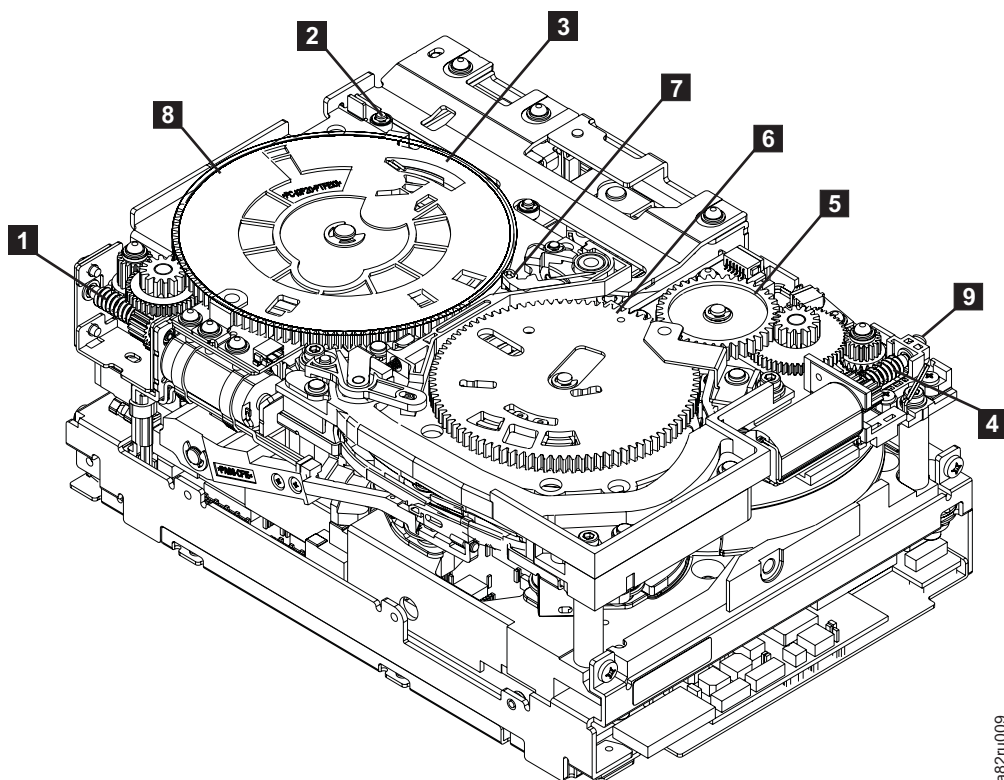
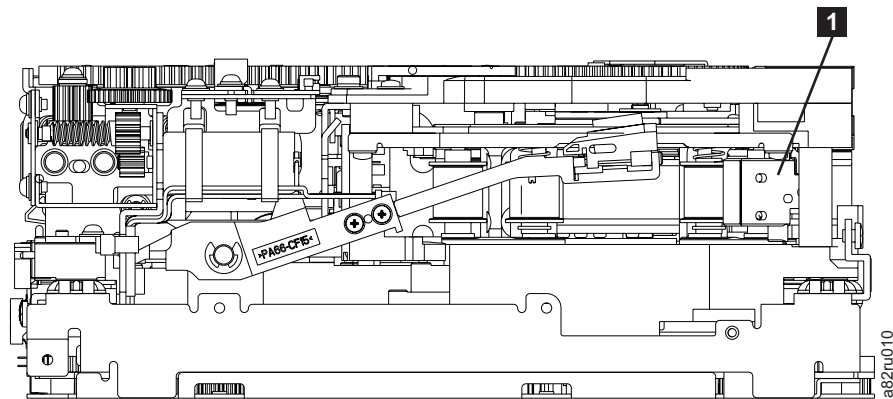

Figure 130. Drive with cover removed to reveal gear train.
Figure 131. Leader Block Assembly (LBA)
- ___ 6. Locate the threader motor worm gear (**4** in Figure 130 on page 290) on the rear of the drive. You can either:
- a. Use your finger to rotate the treader motor worm gear and slowly rotate the threader mechanism gear (**6** in Figure 130) clockwise; OR
- b. Use a #1 flathead screwdriver to turn the worm gear (**9** in Figure 130) clockwise.
This rotates the threader motor worm gear (**4** in Figure 130) clockwise, drawing the LBA into the cartridge.
- 7. As the tape leader block assembly (LBA) is secured in the cartridge, you should hear the LBA retention spring clips click into place. If you do not hear the click, continue rolling until the threader motor worm gear (**4** in Figure 130) stops. The LBA is in the correct position.
- a. Loader mechanism gear (**8** in Figure 130) nearest the front of the drive that actuates the cartridge loader mechanism.
- b. Position of the rotate stub (**3** in Figure 130 on page 290).
- c. Front loader motor worm gear (**1** in Figure 130 on page 290). Rotating this gear allows the loader mechanism gear (**8** in Figure 130 on page 290) to turn.
- ___ 9. Rotate the loader motor worm gear (**1** in Figure 130 on page 290) to turn the threader mechanism gear (**6** in Figure 130 on page 290) counterclockwise. Continue turning until the rotator stub (**3** in Figure 130 on page 290) loses contact with the lever (**7** in Figure 130 on page 290). This releases the LBA leader pin.
- ___ 10. Rotate the threader motor worm gear (**4** in Figure 130 on page 290) to turn the threader mechanism gear (**6** in Figure 130 on page 290) counterclockwise. This moves the LBA out of the cartridge and past the read/write head. Stop this rotation when the LBA is near the tape guide roller nearest the rear of the drive shown as **1** Figure 131.
- ___ 11. Continue rotating the loader motor worm gear (**1** in Figure 130 on page 290) until the rotator stub (**3** in Figure 130 on page 290) is positioned as shown. Notice that the rotator stub (**3** in Figure 130 on page 290) is nearly aligned with the cartridge loader tray guide bearing (**2** in Figure 130 on page 290).